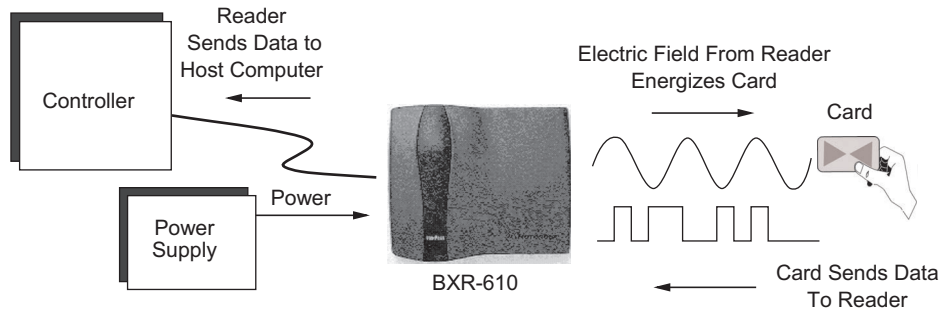

Figure 1 BXR-610 Block Diagram
When powered, the reader transmits a continuous low-power radio frequency (RF) signal (See Figure 1) which serves as a clock and energy source for RFID cards and tags. Presenting a tag as shown, the hand serves as a required ground reference and activates the tag when in proximity to the reader. The RFID tag responds to the reader with a modulated unique identification number. In turn, the reader demodulates the tag signal, converts it to the pre-determined Wiegand, Magnetic Stripe-compatible, or RS-232 output format and sends the decoded data to an external host controller via the interface cable. In response, the controller takes appropriate action (e.g. open a door). Note: This particular model of reader is not conducive to a hands-free application (e.g.) reading a tag while within a purse, briefcase or wallet is not recommended.